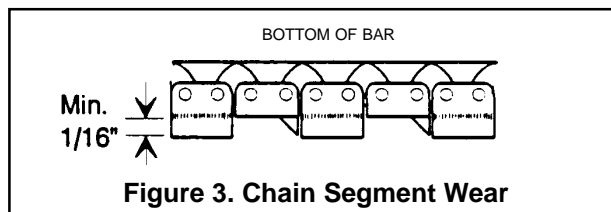

Figure 3. Chain Segment Wear
1. Using adjustable calipers, measure several chain segments as illustrated in figure 3.